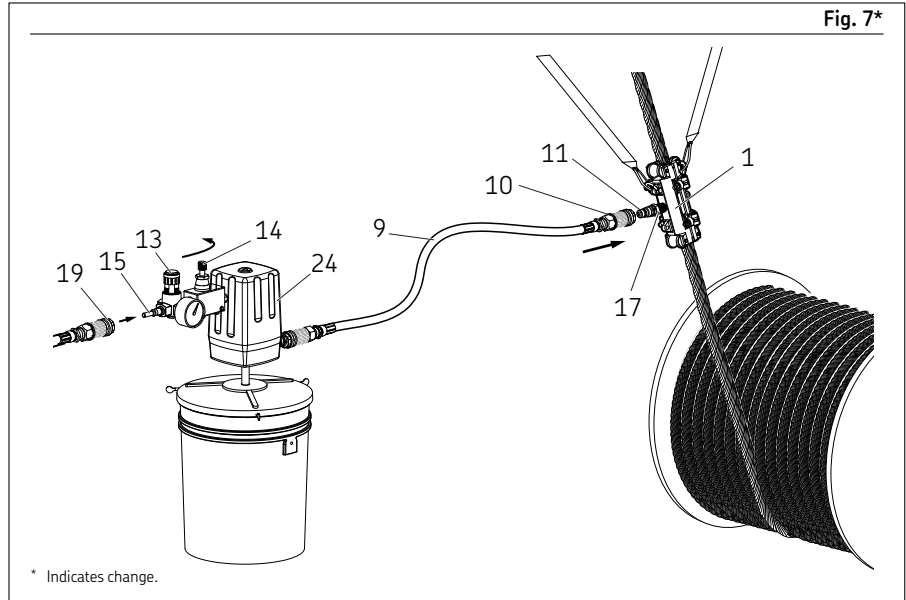

Fig. 7\*
- 1 Connect air coupler (19) to air nipple (15) (→ Fig. 7).
- 2 Connect grease hose (9) to lubricator (1).
- 3 Open air pressure regulator (13).
- 4 Gradually open air flow regulator (14) to begin operating pump (24).
Lubricator grease chamber (1) is full when grease appears between lubricator (1) and wire rope (→ Fig. 7).
Remove lubricator (1) after lubrication is complete (→ Fig. 7).